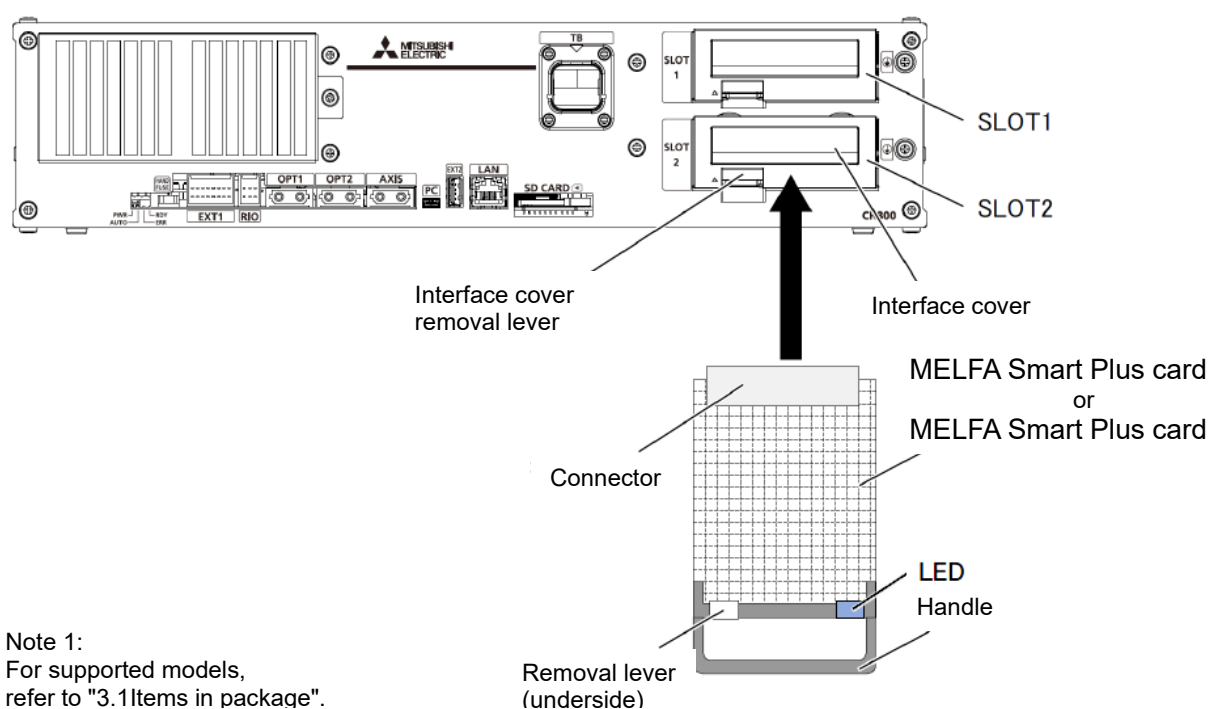

Fig. 5-6 Insertion of the MELFA Smart Plus card (MELFA Smart Plus card pack)
Ensure that both ends of the card are inserted into the slits of the slot (SLOT1 or SLOT2 shown in Fig. 5-6).
- 3) When the vision sensor enhancement function is enabled, the LED on the card will flash green (near the handle, refer to "Fig. 5-6 Insertion of the MELFA Smart Plus card (MELFA Smart Plus card pack)").